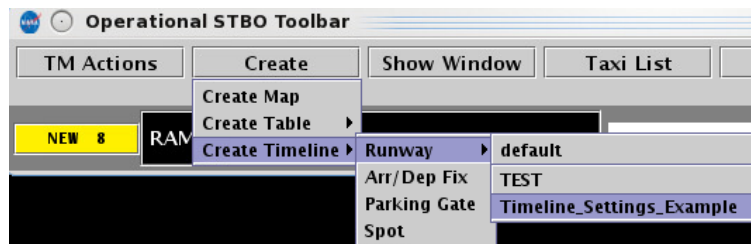

Figure 22. Load saved files in Timeline settings.
**Step 2:** Hover over “Create Timeline”, then hover over the type of Timeline that was saved (in the example below, “Runway”). (Figure 22)
**Step 3:** Hover over and click the saved Timeline file name. In the example for Figure 22: “Timeline\_Settings\_Example”.